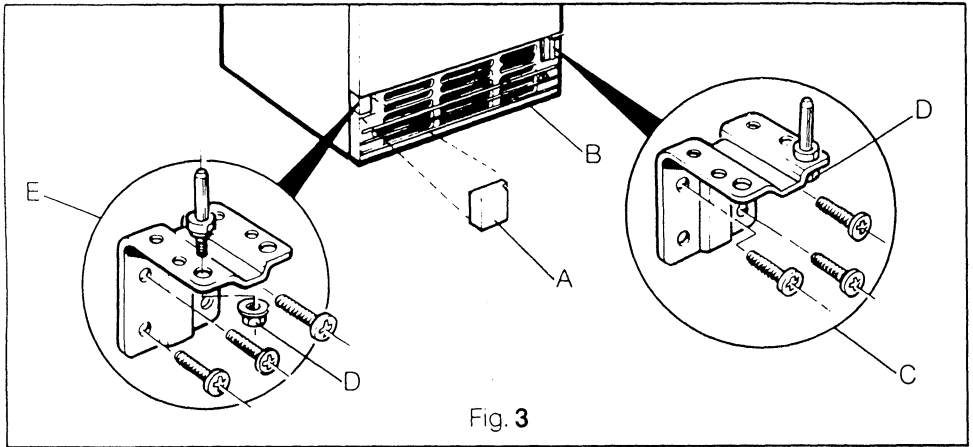

Fig. 3
2. Remove the lower ventilator (B, fig. 3) by rotating the locking catch at each end a quarter of a turn, – the left-hand catch clockwise, and the right-hand catch anti-clockwise.
4. Whilst supporting the lower edge of the freezer door remove the lower hinge bracket from the cabinet by undoing the three fixing screws, (C, fig. 3). Carefully remove the door from the centre hinge pin.
6. Remove the nut retaining the lower hinge pin to the bracket and transfer the pin to the alternative hinge pin hole, tighten the nut. (D, fig. 3)
9. Supporting the lower edge of the door locate the lower hinge pin in the door and secure the bracket to the frame of the cabinet with the three fixing screws. (E, fig. 3)
13. Transfer the cover plate (A, fig. 3) to the opposite side of the ventilator and refit the ventilator.